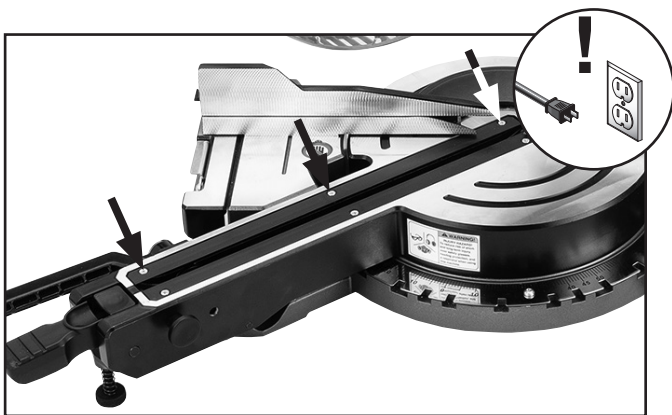

Figure 63. Table insert mounting screws.
3. Remove existing inserts, place them over board from **Step 1**, and mark and drill holes for mounting screws (see **Figure 63**).